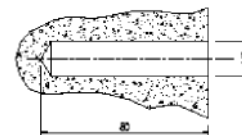

Figure 2
6. Drill holes - 80 mm deep (figure 2): you will need the 13 mm concrete drill bit.